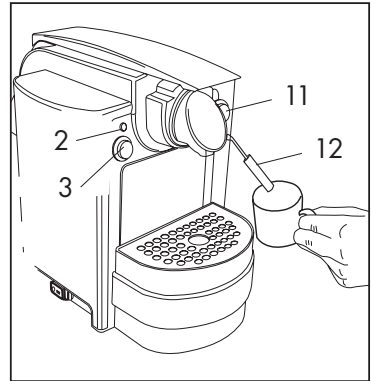

Fig. 11
- Press the steam button (11) (**Fig. 11**), In a matter of seconds, steam will be released through the nozzle (12).
- Plunge the steam nozzle into the cup and leave it in until froth reaches the top (**Fig. 11**).
- Press the steam button (11) and keep it pressed till the desired quantity is dispensed (**Fig. 11**).